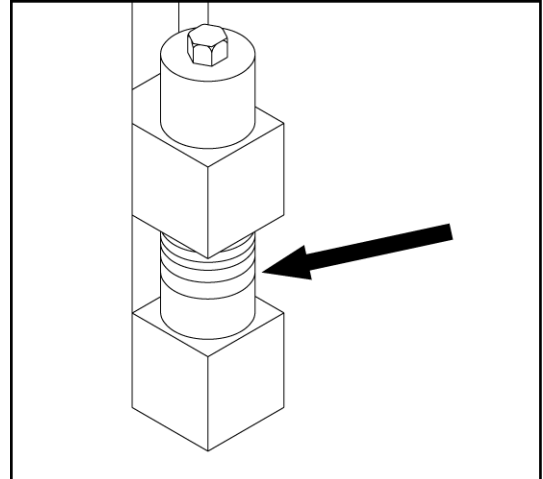

Figure 4.53 63MM (2 1/2") OF SPACERS
- e. Store spacers on bottom side of bolt for front bolts and left hand rear bolt. For right hand rear bolt, store spacers on top. Tighten bolts at all 4 corners that secure mold throat plate spacers (see figure 4.53).